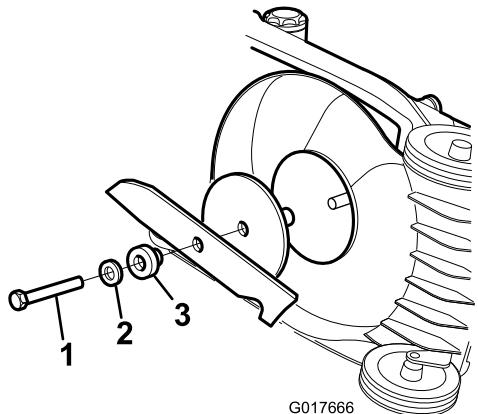

Figure 22
1. Grasp the end of the blade (Figure 22) with a rag or thickly padded glove.
Install a sharp, balanced blade and the blade bolt. The sail part of the blade must point toward the top of the mower housing to ensure correct installation. Tighten the blade bolt to 54 N·m (Figure 22).